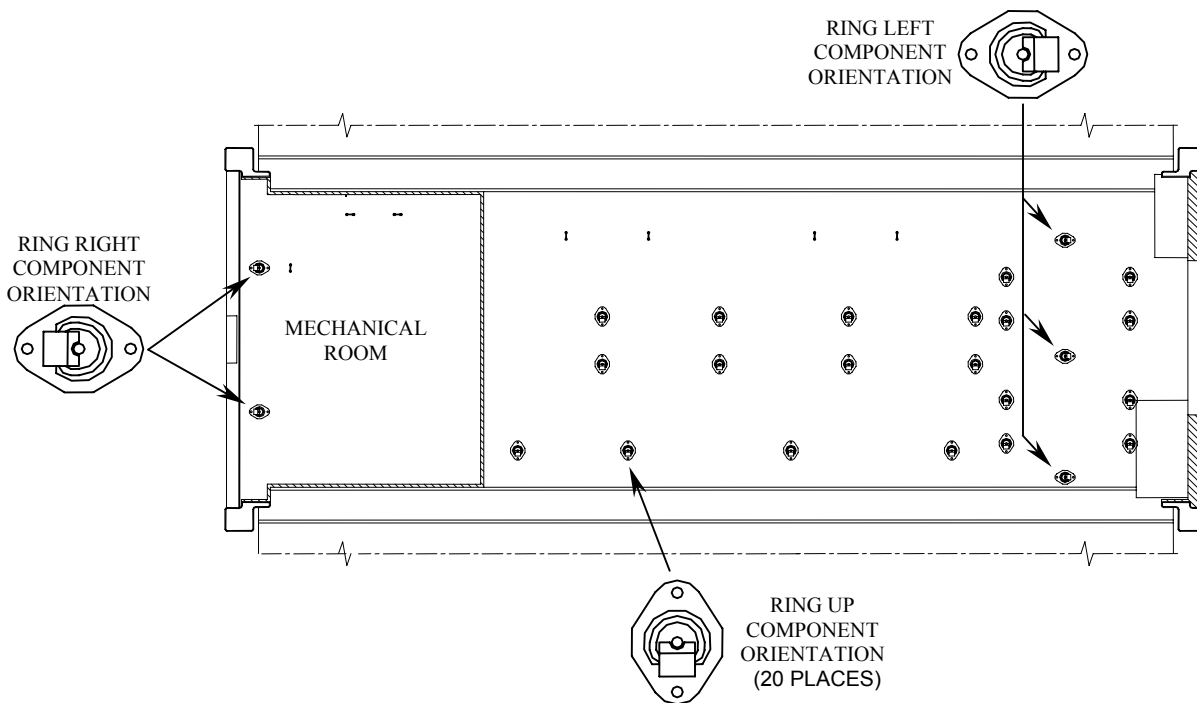

Figure 2. Tie-down Provision Orientation.
**The replacement tie-down provision must be oriented in the proper direction (see Figure 2). Failure to observe this caution may result in equipment damage from tie-down provision failure.**